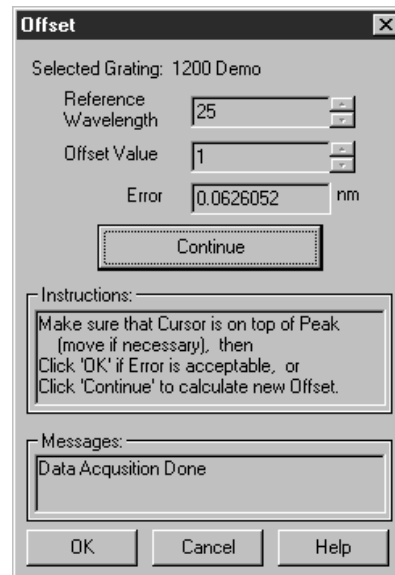

Figure 68. Offset dialog box
2. In the Spectrograph Calibration dialog box, click on the **Offset** button. This will open the Offset dialog box (Figure 68).